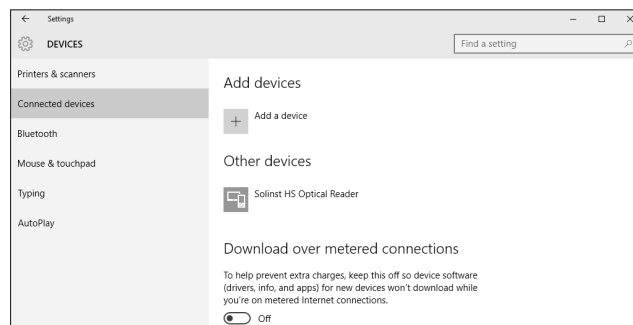

Figure 4-16 Installed Solinst USB Device
10. Once the installation is complete, this will be shown in the Devices > Connected devices Window. See Figure 4-16.